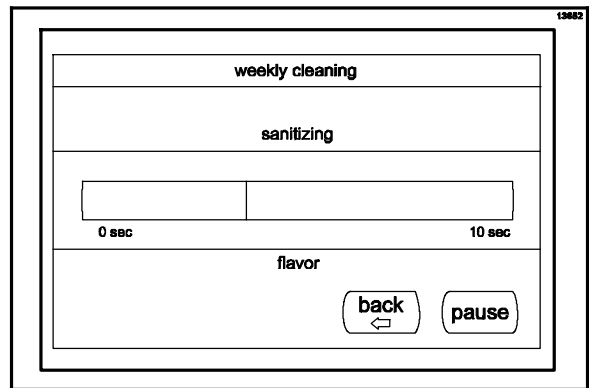

Figure 96
44. Press the NEXT key to start the sanitizing cycle. The unit will automatically start and stop pumping sanitizing solution through the systems and into the rinser bowl. (See Figure 96.)